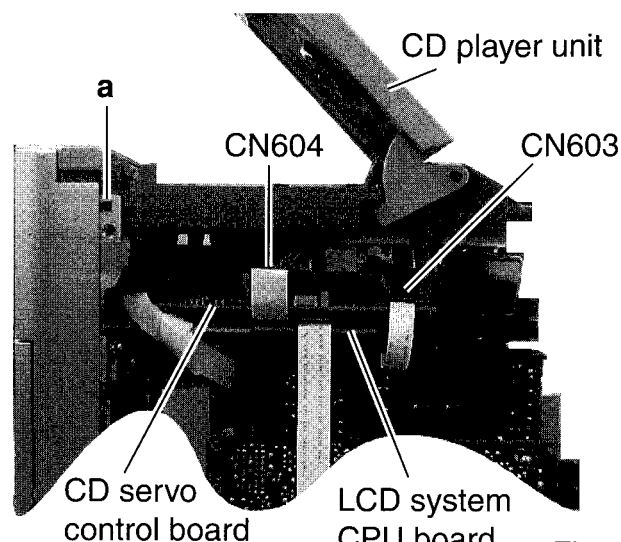

Fig. 7
■ Removing the rear panel (See Fig. 7 and 8)